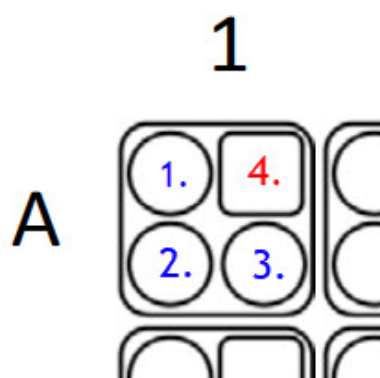

Figure 2: Pipetting scheme of the crystallization plate well. Lens wells: 1-3. Reservoir well: 4.
HOW TO: Load tips and launch the program 'CRYST_SCREEN' to fill the lens and reservoir wells (Figure 2) of the crystallization plate with the crystallization screening agents.
Aspirate 40 µl of the Morpheus HT-96 reagent and dispense 2 µl back into the 96 deep well block (**Position A**), as indicated in the pipetting program. Dispense 2 µl into each lens well (1-3), and 30 µl into the reservoir well (4), of the crystallization plate on **Position AB** according to **Figure 2**. Move the plate slider of the three position stage to access the different wells of the crystallization plate more easily. Discard the pipette tips with the remaining liquid. The accuracy of these pipetting steps is increased by using a pre- and post-dispense.
HOW TO: 30 μ l of each of the three different protein solutions are manually distributed into 8 tubes of a PCR strip to allow subsequent aspiration with 8 pipette channels in parallel. The PCR strip containing protein solution 1 is positioned in column 12 of a cooling block, which acts as a support. Instead of loading all 96 tips at once, load 8 tips to the last column of the pipetting head and aspirate 28 μ l of protein solution 1. Perform a pre-dispense (2 μ l) and then transfer 2 μ l to lens well 1 (**Figure 2**) of each column of the crystallization plate (**Figure 4**). Perform a post-dispense (2 μ l). Discard the tips and exchange the PCR strip for one containing protein solution 2. Transfer the protein solution into lens well 2. Repeat the process for protein solution 3 and lens well 3.